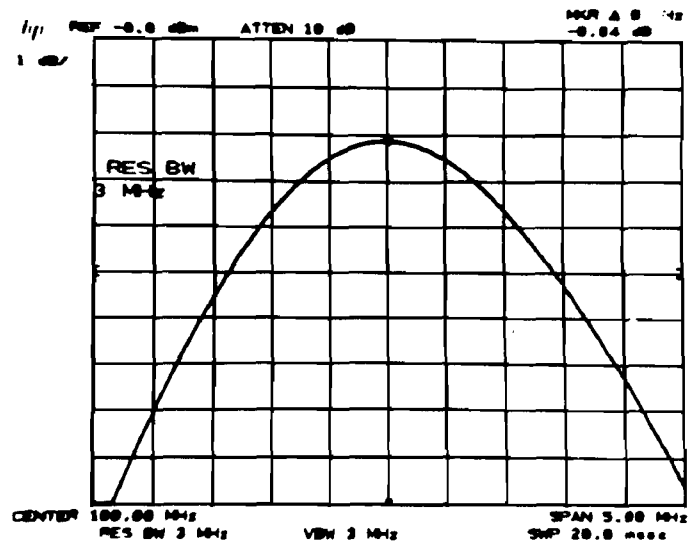

Figure 2-7. Bandwidth Switching Uncertainty Measurement
- Key in settings according to Table 2-6. Press MARKER **PEAK SEARCH** at each setting, then read the amplitude deviation from the MARKER **Δ** readout at the upper right of the display. (See Figure 2-7.) The allowable deviation for each resolution bandwidth setting is shown in the table.